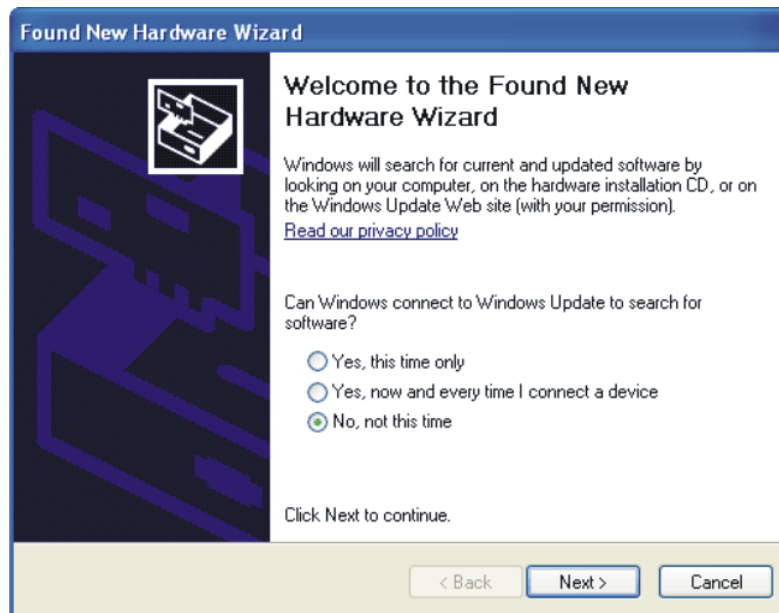

Figure 9. NI-VISA Driver Installation
2. The computer should recognize new hardware and begin installing the drivers for the hardware. Figure 9 through Figure 12 are provided for reference to show the installation steps.
- For the first screen, Figure 9, it is not necessary to search for the software; it has already been installed to your PC.